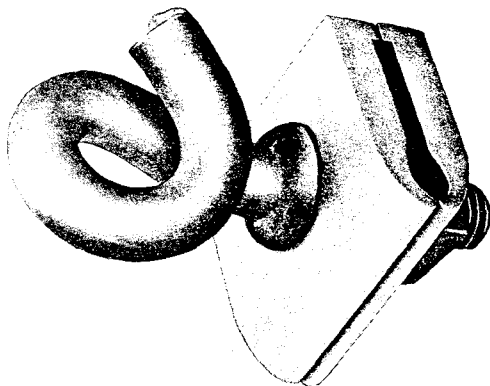

Fig. 20—E Span Clamp
6.02 The E span clamp is designed to be used on galvanized suspension strand and jacketed strand. The E span clamp (Fig. 20) is placed on suspension strand as follows: